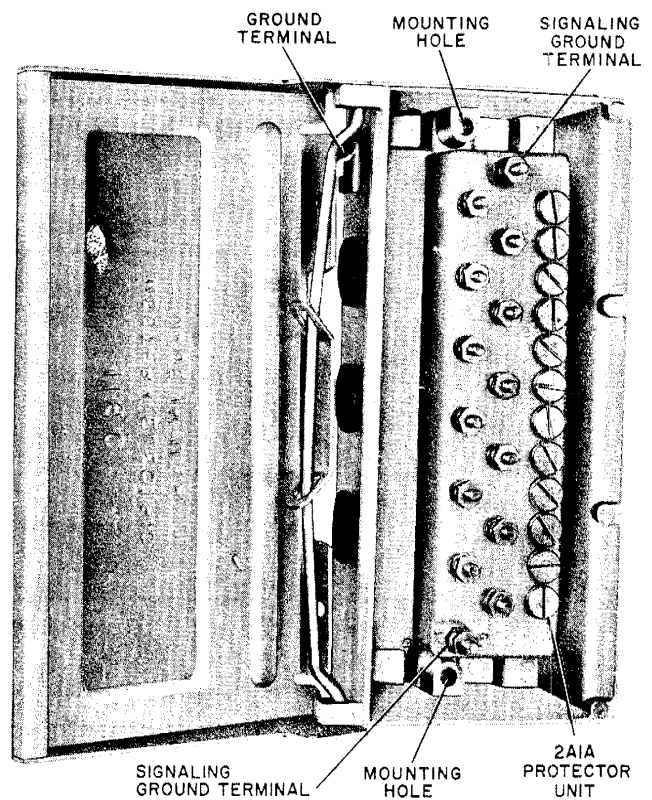

Fig. 3—116C Protector
**2.06** The 116C Protector is a molded terminal block containing twelve binding posts, twelve 2A1A Protector Units, and two binding posts for signaling ground connections. The terminal is housed in a metal container with a hinged metal cover. The metal housing is equipped with a clamp for connecting the station ground wire (Fig. 3).